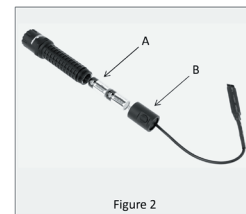

Figure 2
4. Install the two included CR123 batteries (Figure 2-A). The positive terminals on each battery should be oriented in the direction of the Light Bezel.
5. Install the Remote Pressure Switch (Figure 2-B) and tighten into place.